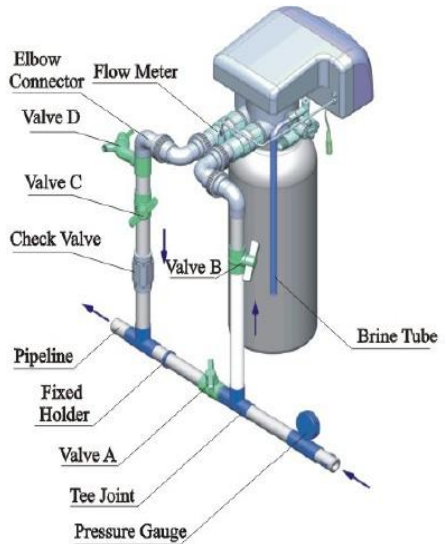

Figure1-3
- a. As Figure 1-3 shows, install a pressure gauge in water inlet.